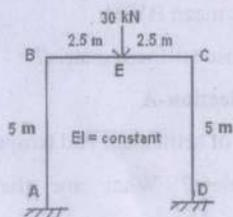

Fig. 2.
5. Analyze the portal frame ABCD shown in Figure 2 by stiffness method and also draw the bending moment diagram. 20